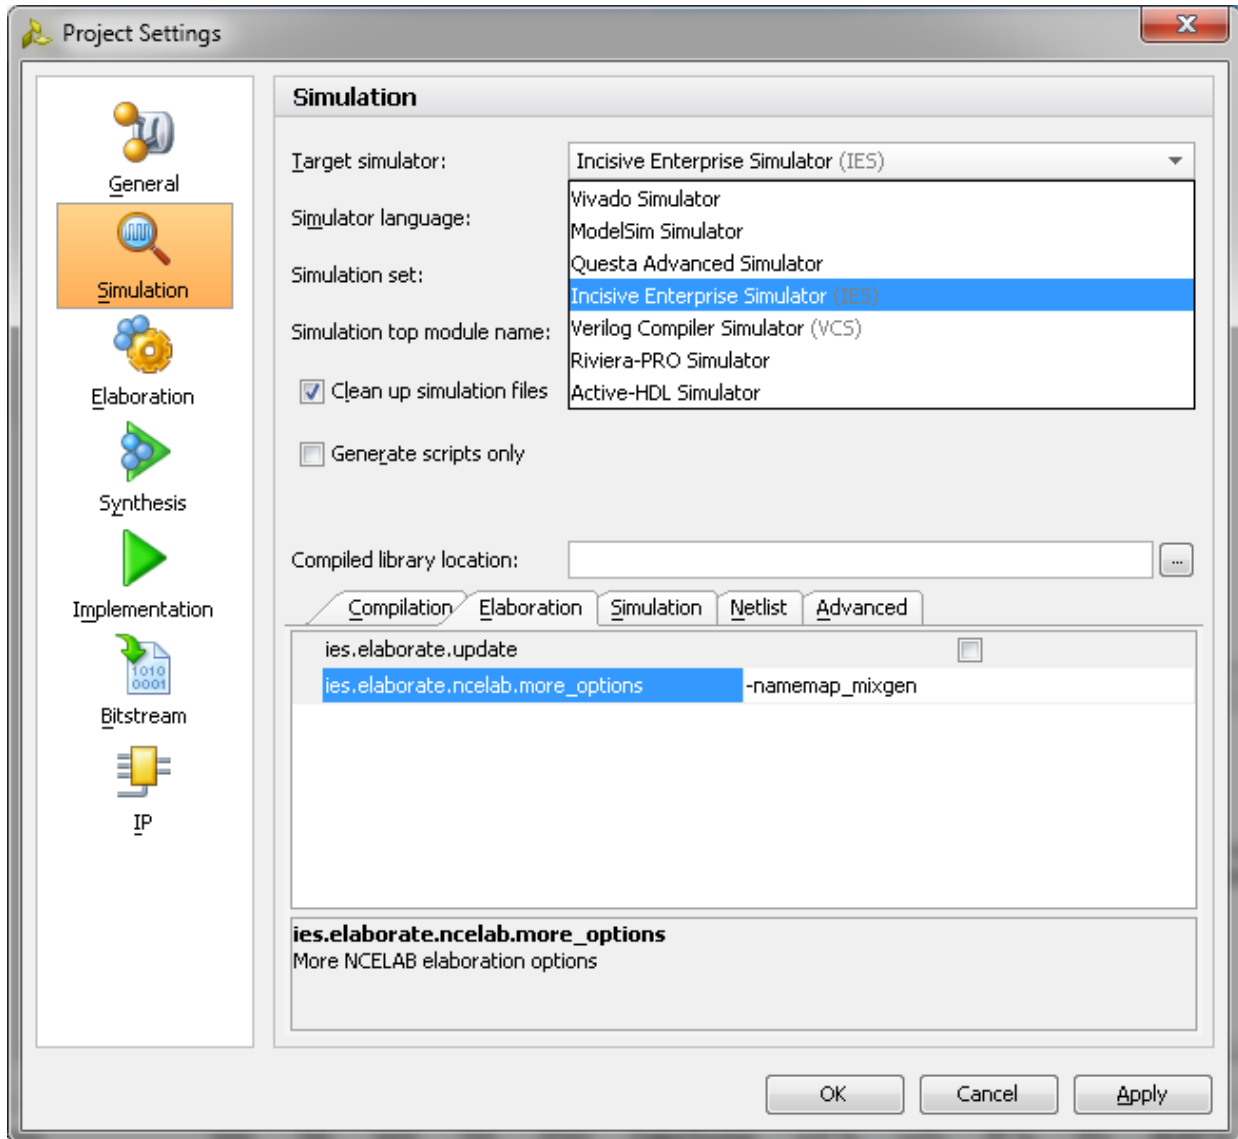

Figure 2-54: Simulation with IES
- d. Under the **Simulation** tab, set the `ies.simulate.runtime` to 1 ms (there are simulation RTL directives which stop the simulation after certain period of time which is less than 1 ms) as shown in Figure 2-54.